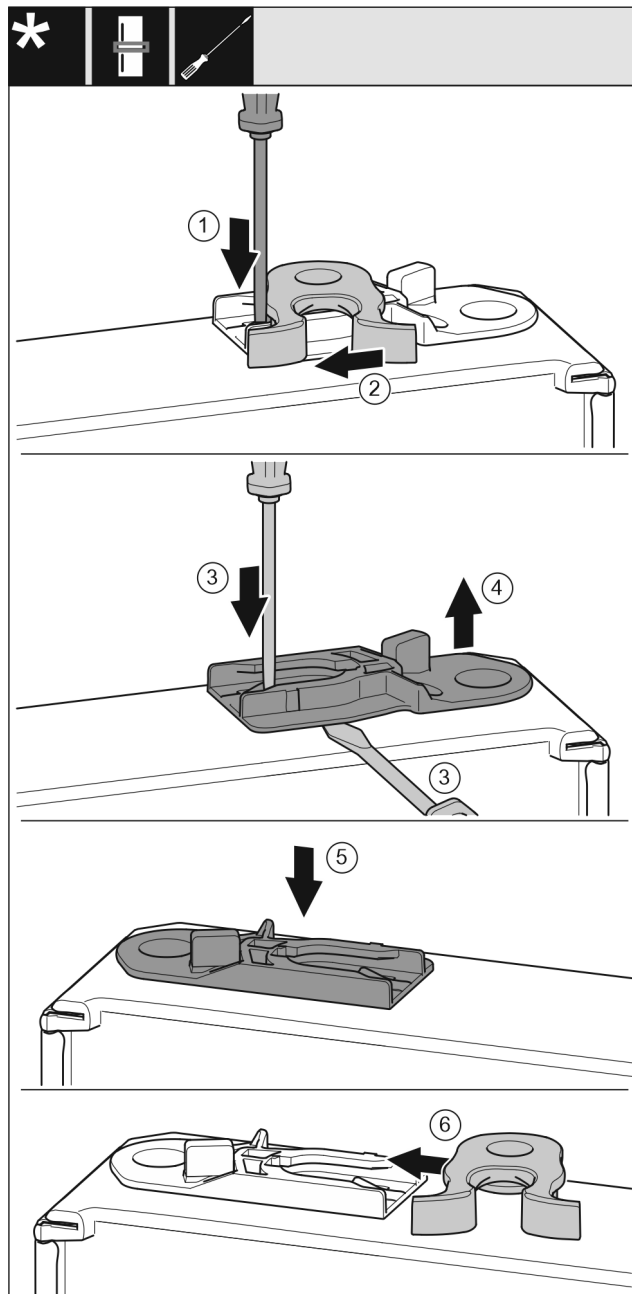

Fig. 16
- ▶ Push the lug downwards with a slotted screwdriver. Fig. 16 (1)
- ▶ Pull the door latch out of the guide. Fig. 16 (2)
- ▶ Pull out the guide bush: Press the lug with a slotted screwdriver and, at the same time, insert the slotted screwdriver under the guide bush. Fig. 16 (3, 4)
- ▶ Slide the guide bush included in the scope of supply to the other side of the housing. Fig. 16 (5)
- ▶ Push the door latch into the guide. Fig. 16 (6)